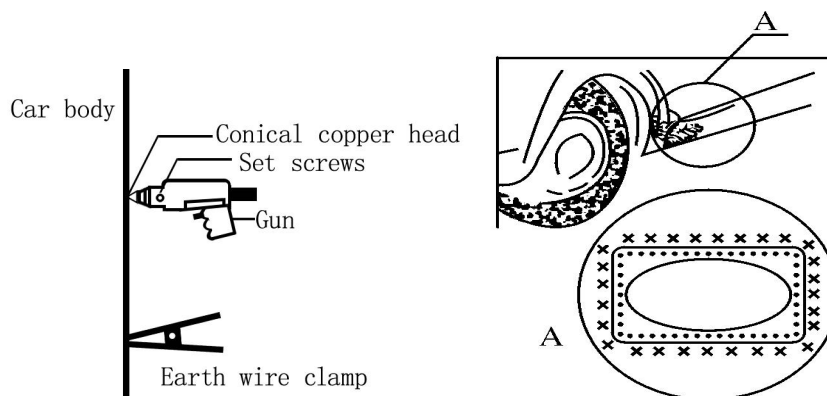

Figure 7
9.6.1 Grinding the rust around the hole or rotten parts thoroughly, take a iron plate which little larger than hole as fillings pieces. Polished each sides of this iron plate and cover on the gap, the bonding for a single point (Figure 7, left);
9.6.2 Insert conical copper head in the gun and tighten the tightening screw firmly, rotate knob switch to adjust time and current intensity, is generally make based on thickness of plate, tight pressed the gun on the iron plate edge. iron plate must be tightly connected with the body, pressing the gun switch for a single point operation. Iron plate should be uniformly distributed around the melting point, that is machine automatically trigger and work, melting point uniform around iron plate (Figure 7 on right)